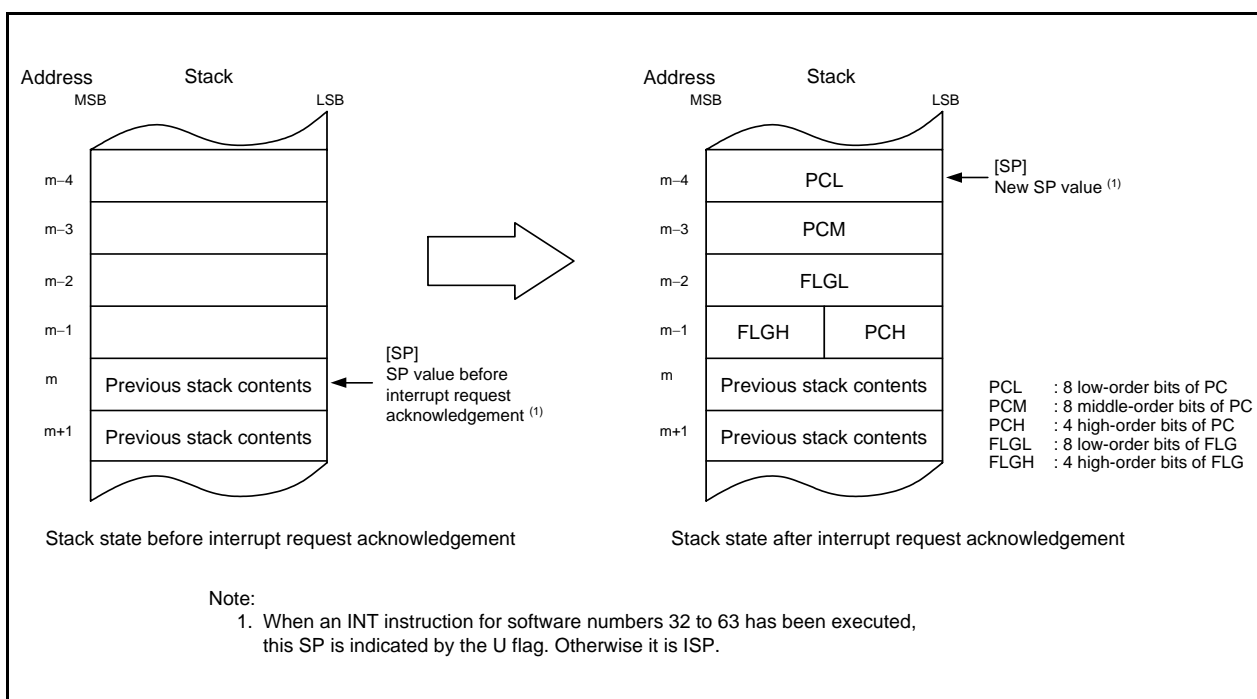

Figure 11.5 Stack State Before and After Acknowledgement of Interrupt Request
In the interrupt sequence, the FLG register and PC are saved on the stack. After an extended 16 bits, 4 high-order bits in the PC and 4 high-order (IPL) and 8 low-order bits in the FLG register, are saved on the stack, the 16 low-order bits in the PC are saved. Figure 11.5 shows the Stack State Before and After Acknowledgement of Interrupt Request. The other necessary registers should be saved by a program at the beginning of the interrupt routine. The PUSHM instruction can save several registers in the register bank being currently used (1) with a single instruction.